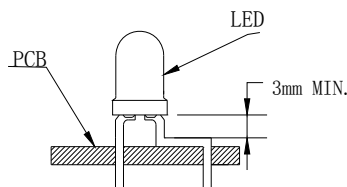

Fig. 5
4. Maintain a minimum of 3mm clearance between the base of the LED lens and the first lead bend.(Fig. 5 and 6)